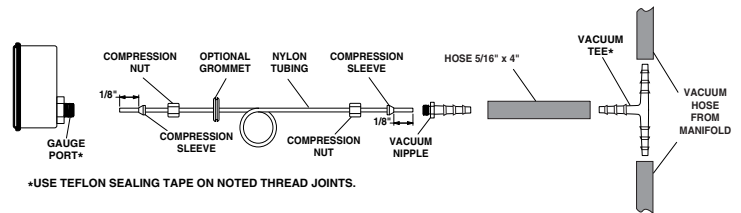

Figure 5. Boost/Vacuum Gauge "T" Fitting Option Connection
■ On vehicles without a tap on intake manifold, locate an existing vacuum line where a "T" fitting can be utilized and follow the directions for "Option Two - Existing Vacuum Line Connection" (Figure 5).
See Figure 5 and follow the instructions below: